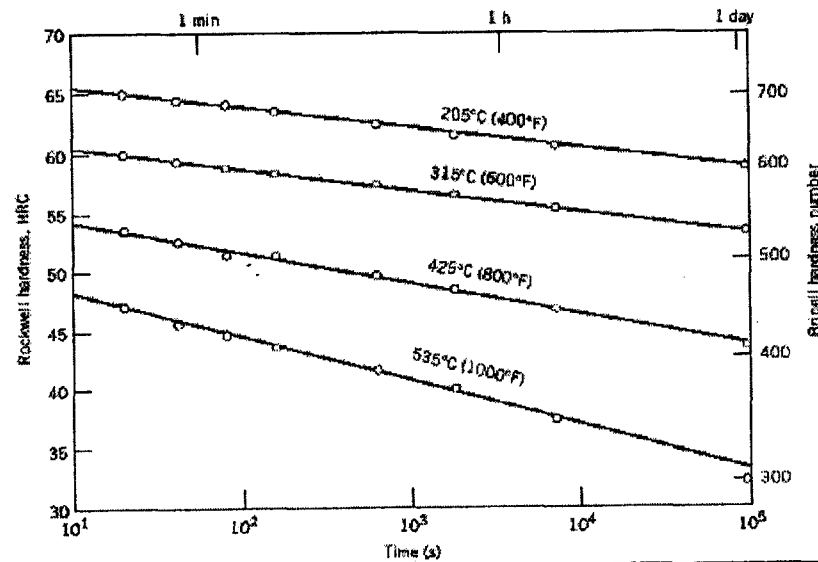

Figure 5. Hardness versus tempering time for a water-quenched eutectoid plain carbon (1080) steel.
5. On the isothermal transformation diagram for a eutectoid (0.76 wt% C) iron-carbon alloy shown below, sketch and label curves or lines for heat treatments to yield specimens having the following Brinell hardnesses. Using Figure 3, Figure 4 and Figure 5